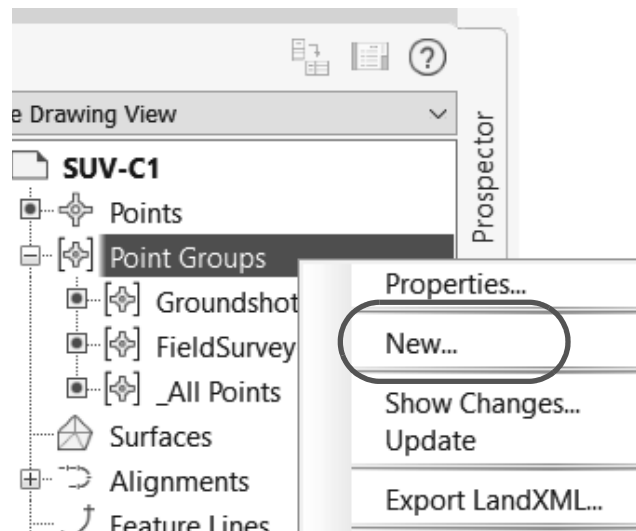

Figure 2–52
3. In the *TOOLSPACE>Prospector* tab, select **Point Groups**, right-click, and select **New...**, as shown in Figure 2–52.
4. In the *Point Group Properties* dialog box, on the *Information* tab, type **Boundary Pin Survey** in the *Name* field, type **Collected April 30, 2024** as a *Description*, set the *Point style* to **ASC-Iron Pin**, and set the *Point label style* to **ASC-Elevation and Description**, as shown in Figure 2–53.